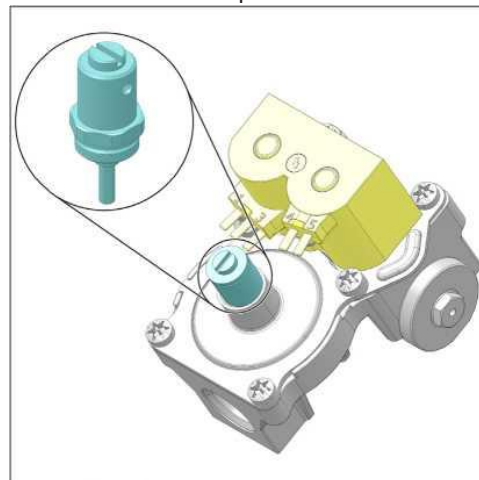

Figure 2 - Style "B" Blocking Pin
9. Remove the regulator vent cap (leak limiting device) from pressure regulator. See figure 2 below for style "B".
10. Install the new blocking pin Style "B" finger tight. Do not tighten more than 1/8 turn to seal it. See figure 2 below.